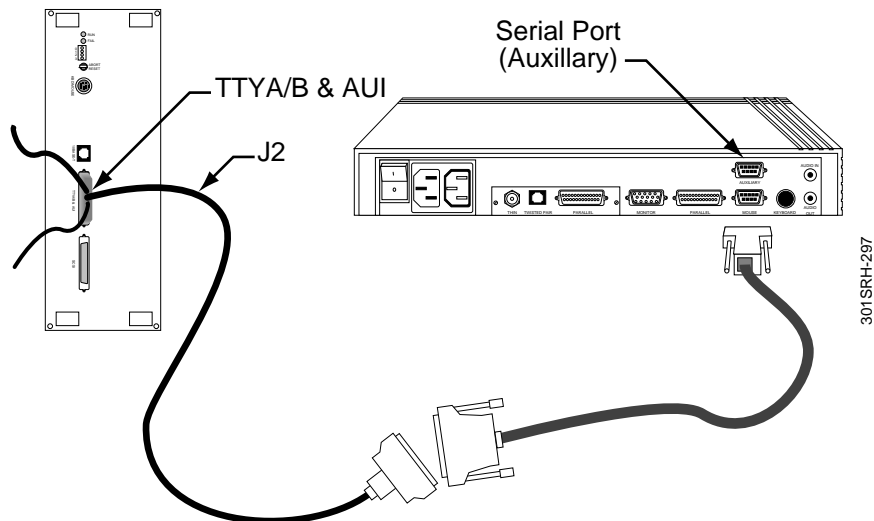

Figure 2-21: Connecting the X-Terminal to the Themis CP1 or CP2 TTA/B Port
4. Attach the connector labeled J2 on the three-connector end of the serial console cable to the auxiliary DB9 serial port on the back of the x-terminal, and attach the single-connector end of the cable to the TTYA/B port on the front face of CP1 (see Figure 2-21).